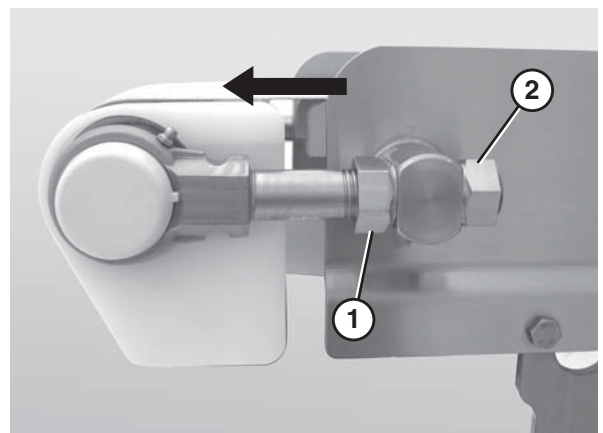

Figure 46
2. Turn the front nuts closest to the tail (Figure 46, item 1) clockwise in order increase tension on the belt.
3. Tighten the back nuts (Figure 46, item 2) to secure the tail.
1. Loosen the back nut (Figure 46, item 2) on the idler tail shaft that needs to be adjusted.
2. Tighten or loosen the front nut (Figure 46, item 1) on the idler tail shaft adjust the belt tracking.